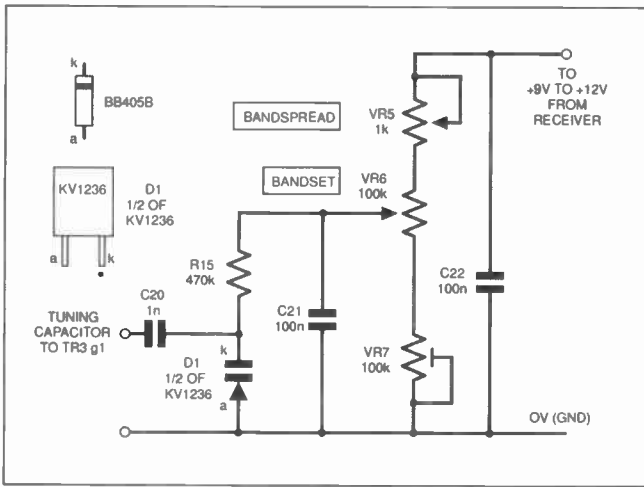

Fig.2. Alternative electronic tuning system. For fine tuning only, delete VR5 and C22, use a BB405B varicap diode and reduce C20 to 50pF.
- *C20 1n (1000p) or 50p polystyrene (See Fig.2).
A suitable, add-on, electronic tuning circuit is given in Fig.2. Potentiometer VR6 controls the reverse bias on varicap diode D1 and varies its junction capacitance. This forms the coarse, or Bandset, tuning control.